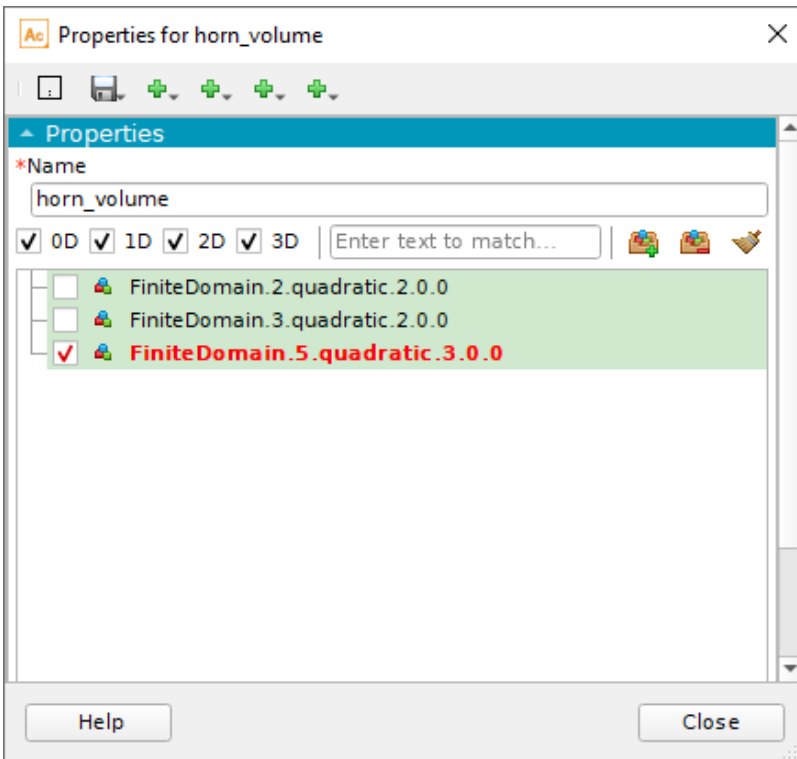

Figure 6.10: Select the volume mesh in the scope selector
- *In the popup property window of the new domain, change the name of the Domain to "horn_volume" and select the volume mesh in the scope selector (Figure 6.10)*